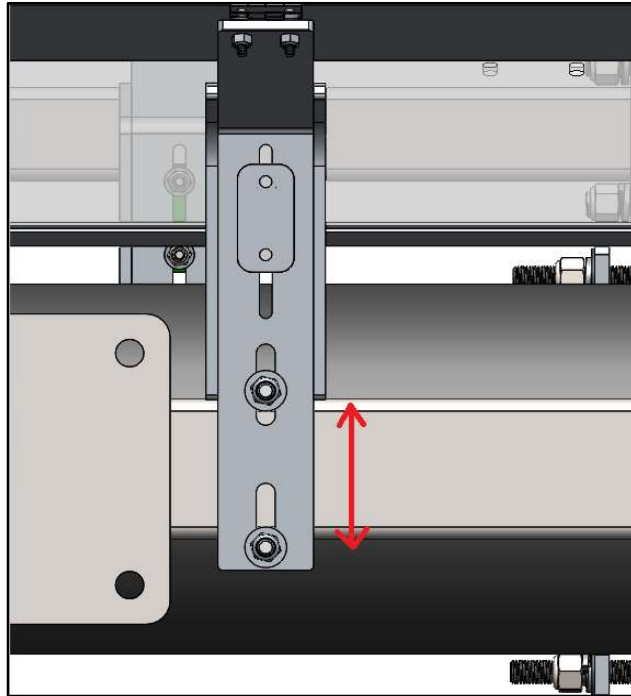
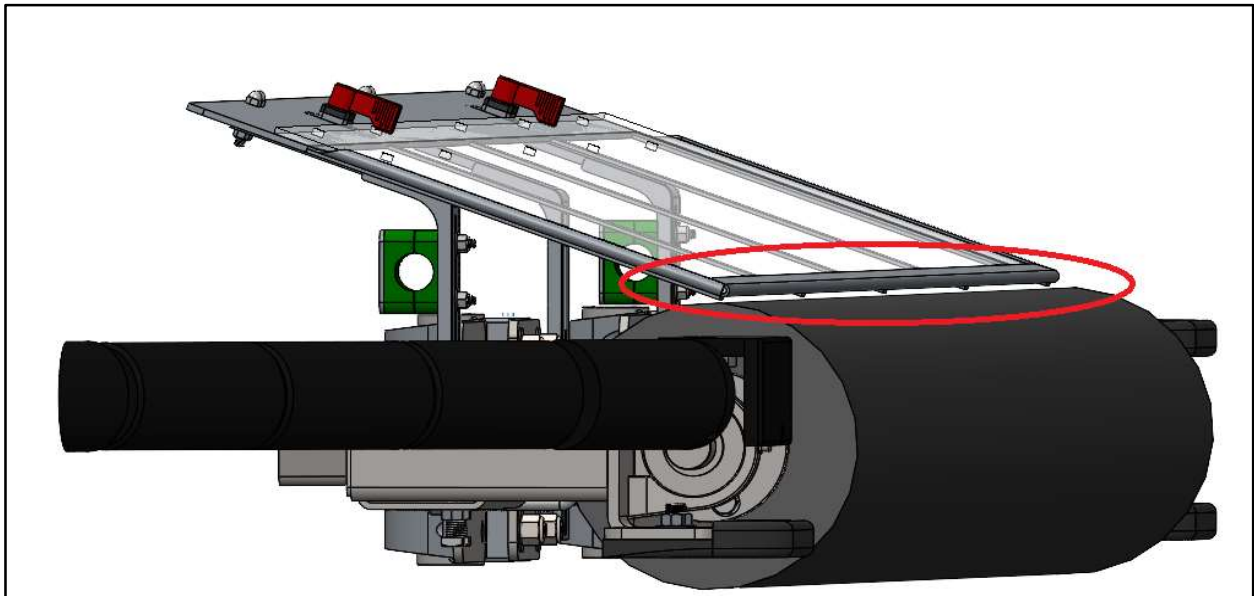

Figure 6: Slide hinge mount up and down with fasteners loosely applied to adjust clearance between shield and brush.
Figure 7: Properly mounted Tire Shine shield. Note the minimal clearance (circled) after proper mounting.
9.) Adjust each hinge mount vertically within the slotted holes to create clearance underneath the bottom of the shield above the brush. There should be no contact between the brush and the shield in order to prevent premature brush wear, but the gap should also be minimal to prevent spraying tire gloss onto vehicle bodies. A 1/4" to 1/2" gap is appropriate clearance. See **Figure 6** for adjustment method, and **Figure 7** for a visualization on proper clearance. Completely tighten each hinge mount once placed in desired position.